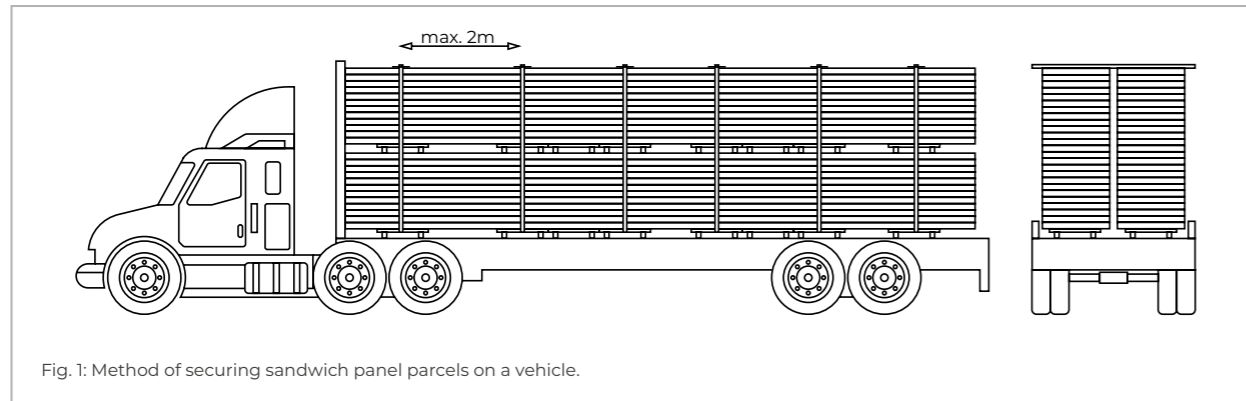

Fig. 1: Method of securing sandwich panel parcels on a vehicle.
- » In road transport, parcels may be stacked in accordance with the principle shown in Figure 1.